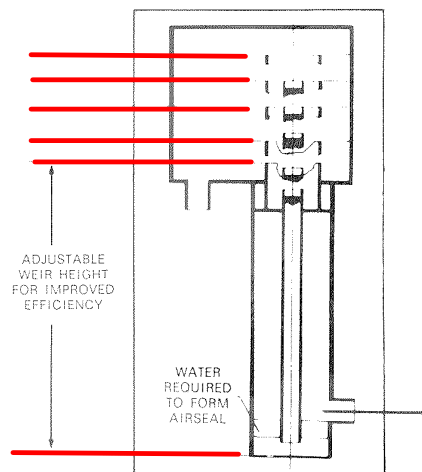

FIG. 2. Water Level Control Box.
The Type N RotoClone has the ability to operate at a flange to flange pressure drop of from 5.0 to 12.0" w.g. This allows for operation of the unit at the exact pressure drop and dust collection efficiency required for each application. The pressure drop of the unit is determined by basically two parameters: (1) gas flow rate; and (2) water flow rate through the impeller. The Type N RotoClone has a certain standing water level within the unit determined by an overflow weir within the water level control box (see Figure 2). It is possible to increase the water flow rate through the stationary impeller by simply raising the water level within the unit. That is, raise the weir height within the